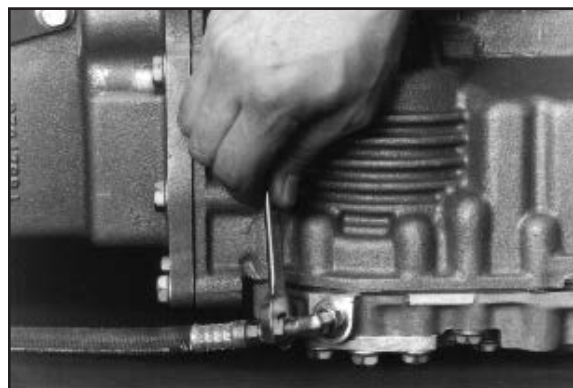

Figure 14
- 12b. Securely attach the high pressure line to the elbow fitting at the transmission high pressure port and torque to 11-12 lb-ft [15-16 N-m]. This fitting is included with the PTO (**Fig. 14**).